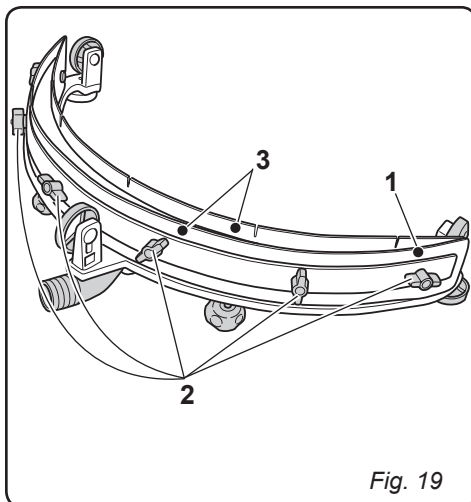

Fig. 19
11.1.f - Replacing the squeegee rubber blades (Fig. 19)